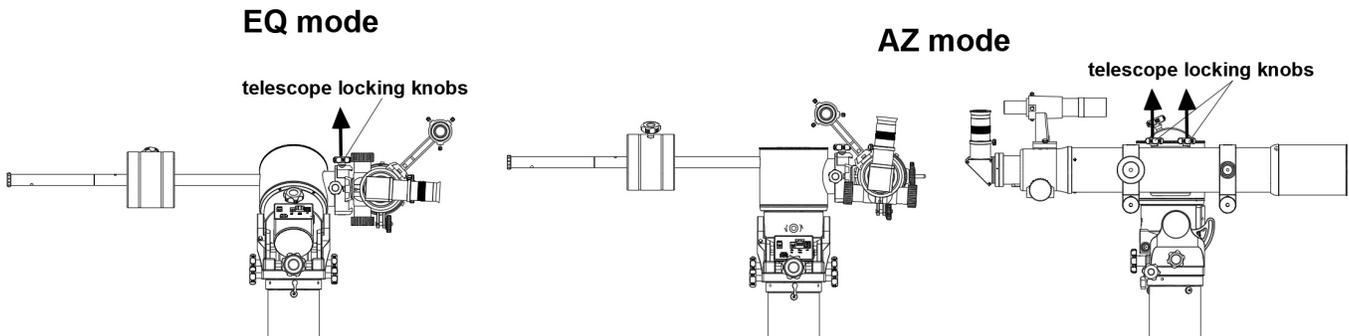

Fig. 10
* Use the SynScan Pro app to slew the two axes and level the telescope with the telescope locking knobs on the upper side. (Fig.10)